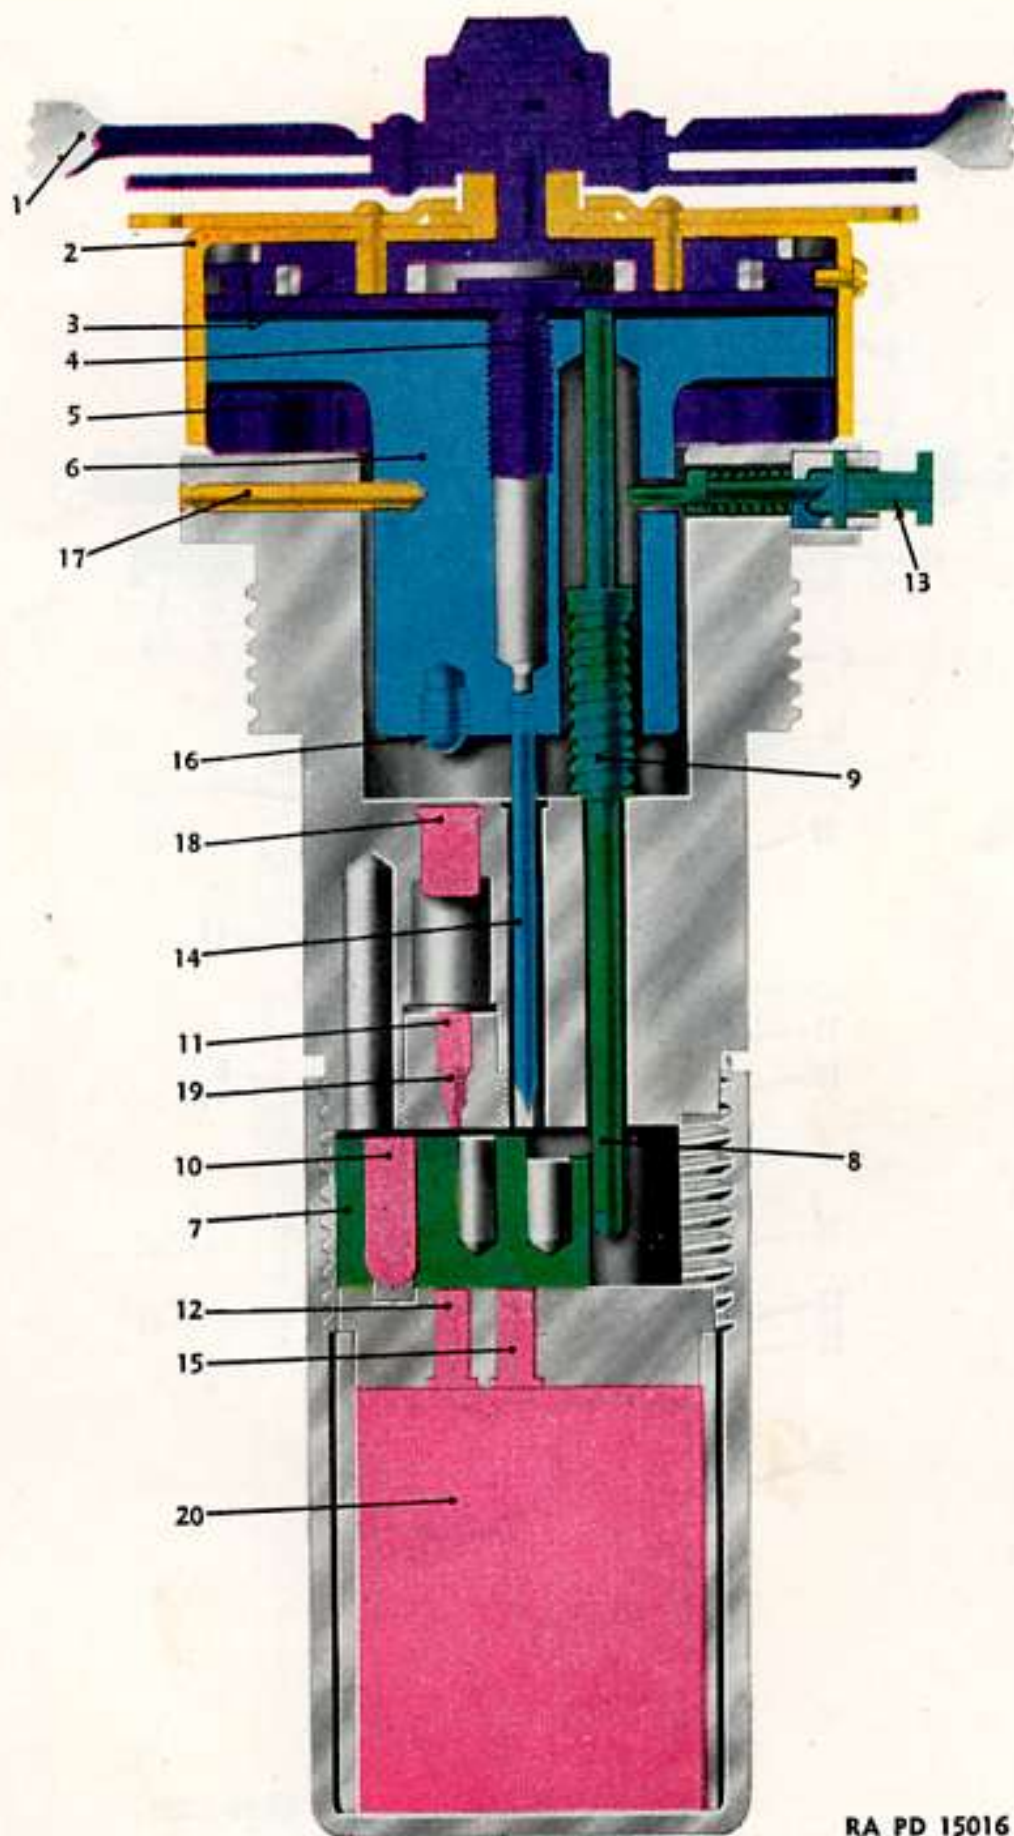
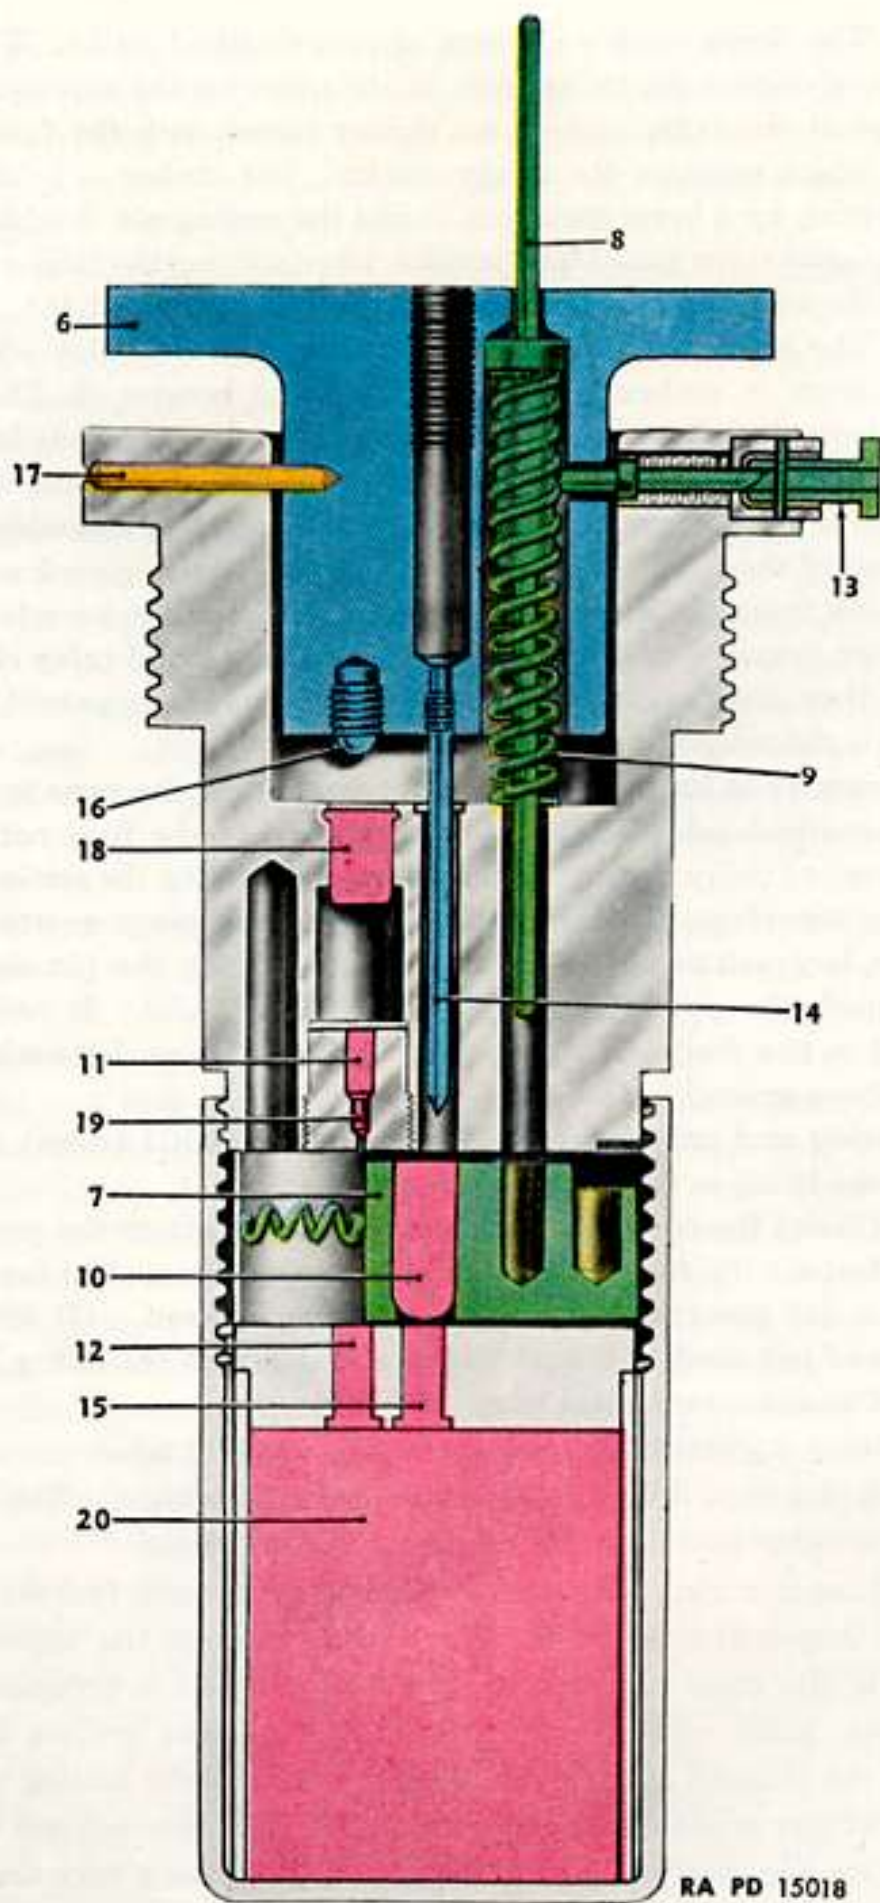

Figure 48. FUZE, bomb, AN-M103 (nose) unarmed.
Figure 50. FUZE, bomb, AN-M103 (nose), armed for superquick action.
c. Function. The fuze contains four interrelated systems (figs. 48, 49, and 50), arming (purple), delay selecting (green), firing (blue), and the explosive train (red).
(1) The arming system consists of the arming vane ① (90° out of position in illustration), vane cup ②, reduction gears ③, arming screw ④, and safety blocks ⑤. The arming vane, reduction gears, and arming screw are assembled in one unit with the vane cup; the safety blocks are held between the flange of the striker ⑥ and the fuze body by the vane cup. When the arming vane is rotated by the air stream, the arming screw unscrews from the striker body carrying the vane, gears, and vane cup with it. When the vane cup has progressed $\frac{1}{4}$ inch the safety blocks are released. Positive ejection is insured by a flat spring assembled within the circle of blocks. The arming vane continues to rotate until the arming screw has progressed $\frac{1}{2}$ inch. Then the entire assembly becomes disengaged from the fuze and falls free.
(2) The delay selecting system consists of the detonator slider ⑦ which is held in place against spring action by the arming stem ⑧ which in turn is held in place by the arming assembly. As the arming screw advances, the arming stem follows, driven by its spring ⑨. When the stem has progressed $\frac{1}{4}$ inch, it clears the first step of the detonator slider which moves to line up the detonator ⑩, with the delay element ⑪ and booster lead ⑫ of the explosive train. If the setting pin ⑬ is in the delay position, it restrains the arming stem from moving further (fig. 49) and, on impact, the fuze functions with 0.1 second delay. If the pin is set for superquick action, the arming stem continues to progress until the end of the stem clears the second step of the detonator slider and the slider moves to line up the detonator with the superquick firing pin ⑭ and booster lead ⑮. (See fig. 50.) Upon impact, the fuze will function immediately. The detonator is out of line with the other explosive elements until the fuze arms: the fuze is detonator safe.